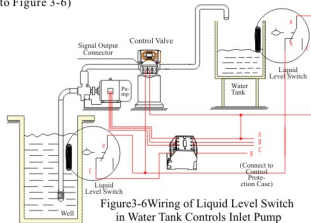

Figure 3-6 Wiring of Liquid Level Switch in Water Tank Controls Inlet Pump
3) Liquid Level Switch in Water Tank Controls Inlet pump (Three-phase) (Set b-01) (Refer to Figure 3-6)